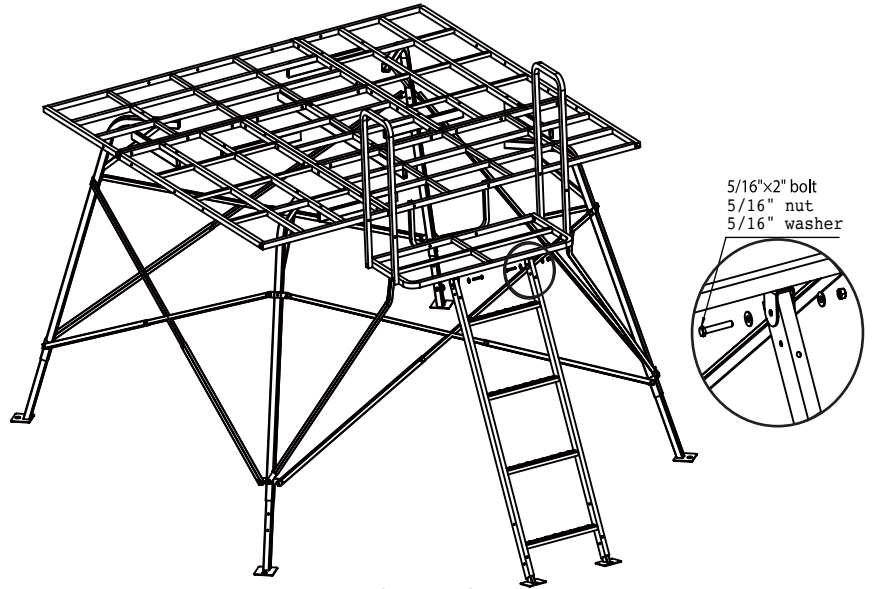

FIGURE 13
Attach the assembled **LADDER** to the **FRONT PLATFORM (#11)** by using (2) 5/16"-18 x 2" bolts, (2) 5/16" lock nuts and (4) 5/16" flat washers (Figure 13). **Be sure to not over tighten.**